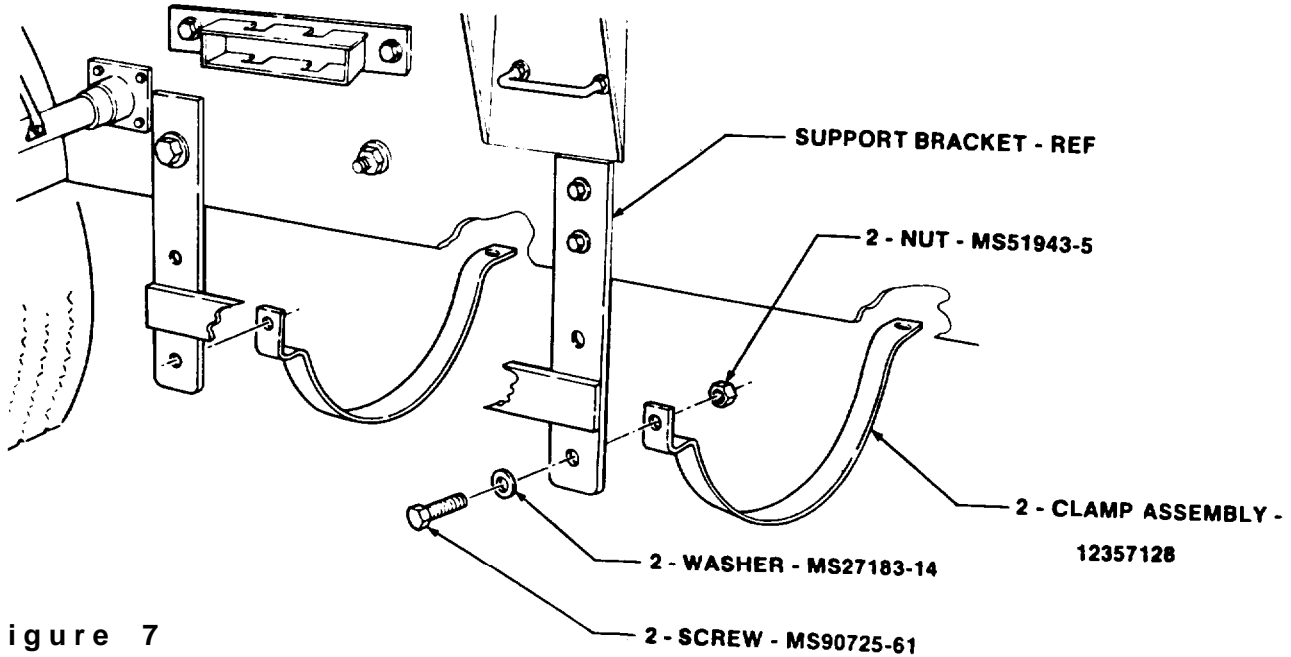

Figure 7
(14) Install lower half of two 12357128 clamp assemblies support bracket and secure with two MS90725-61 screws, MS27183-14 washers, and MS51943-5 nuts as shown in figure 7. Tighten screws 30 lb ft (40.7 N.m).